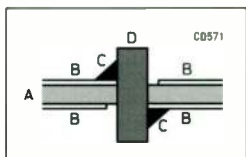

Fig 9.13. Soldering the trapezoidal capacitors to the PCB. A: epoxy glass board; B: PCB track; C: solder fillet; D: trapezoidal capacitor
4. The trapezoidal capacitors are next carefully soldered into the slots in the board where shown in the component overlay diagram. The correct way to solder them is shown in Fig 9.13. Make sure that the grounded side of trimmer capacitors C7, 8, 13, 14, 18, 19 and 20 are all soldered to both the top and bottom of the board. Capacitors C18, 19 and 20 should be miniature 5mm diameter foil types such as Sky or Murata. You must *not* use larger (7mm) trimmers, such as the popular Dau or Philips types, as these lead to tuning problems. The circuit was designed to take the small types. This also applies to C7, 8, 13 and 14.